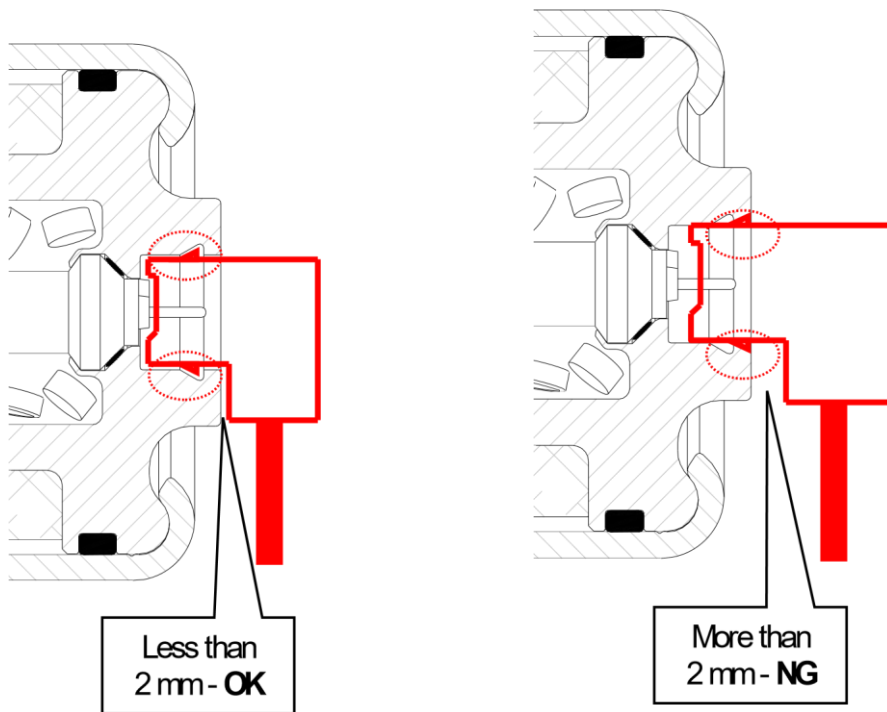

Figure 55
- Make sure harness connector is fully engaged / seated (see Figure 55).